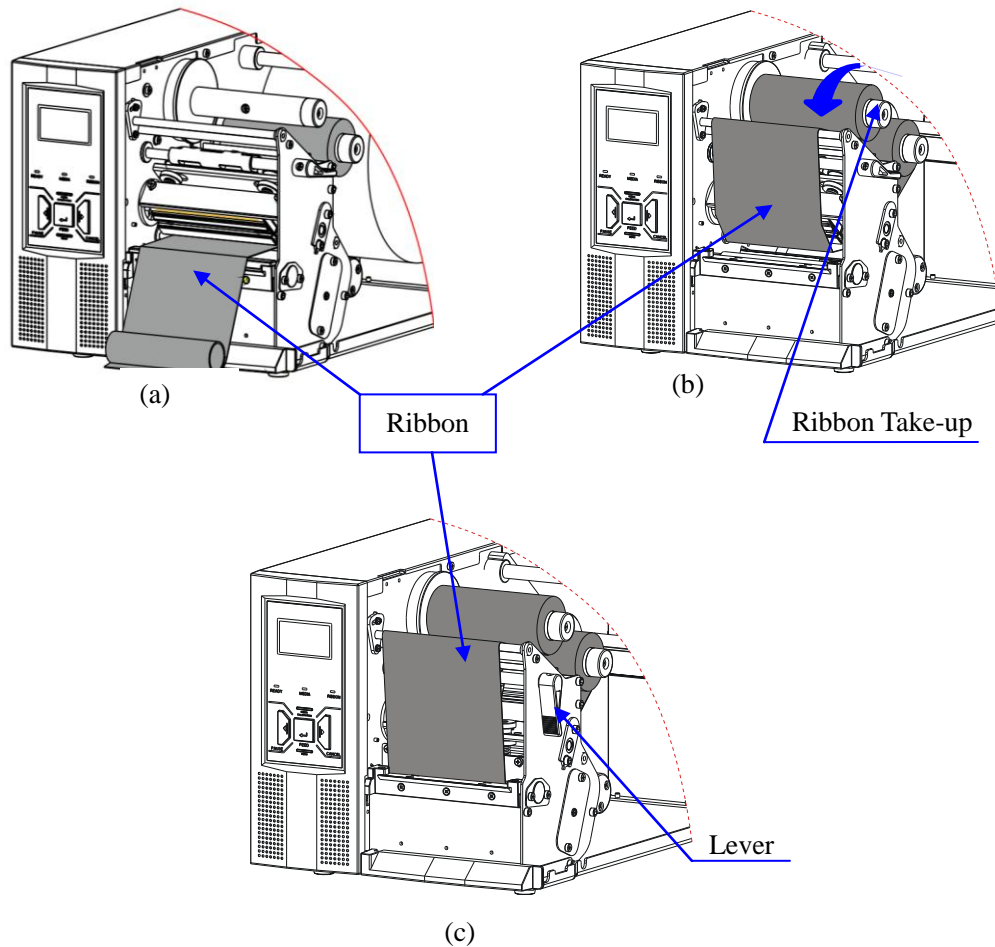

Figure 2-10
7. Secure the leading edge of the ribbon to the core. See Figure 2-10(a).
8. Slide the core onto the Ribbon Take-up Spindle to push it firmly to the inside edge of the Spindle. Turn the Take-up Spindle until the ribbon is tightly wound. See Figure 2-10(b).
9. Turn the Lever to the close position. See Figure 2-10(c).